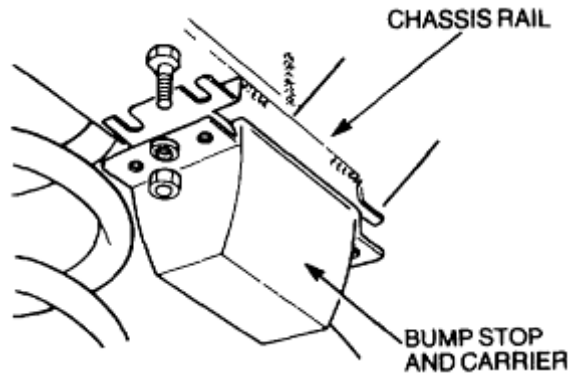

Figure 126 Bump Stop Removal
- a. Remove the two bolts, nuts and lock-washers, securing the bump stop and carrier to the chassis rail (Figure 126). Discard the lock-washers.